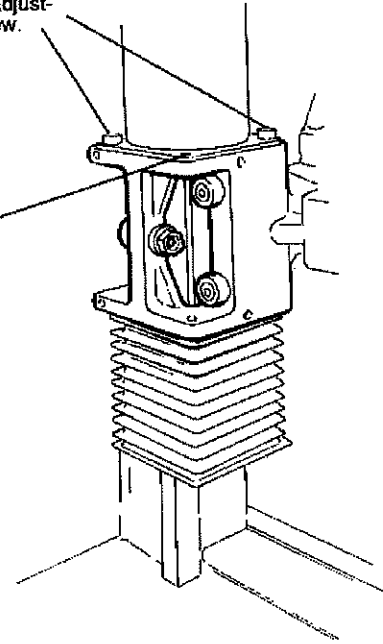

FIG. 16
For access to the height adjustment screw. See FIG. 16.
1. Remove the two sheet-metal dust covers over the cam followers. Shown removed in FIG. 16.